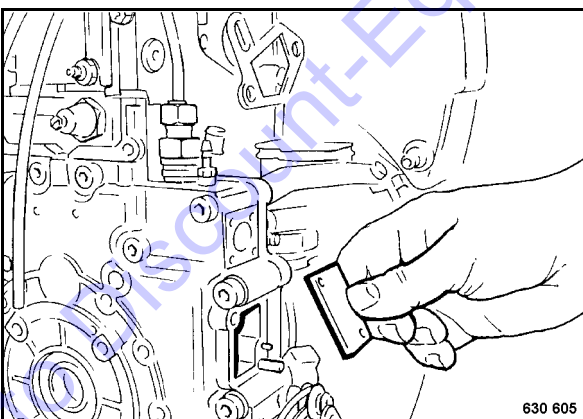

Fig. 81
- Take the locking plate (Fig. 81) off.